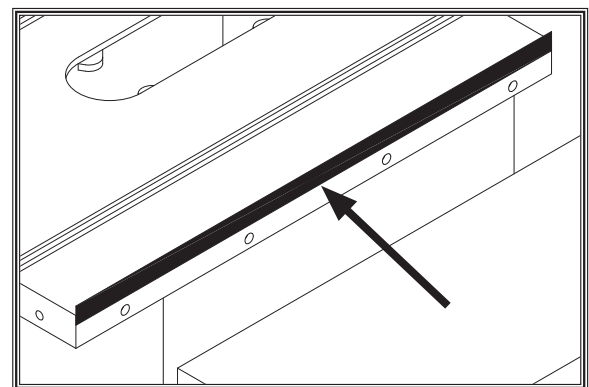

Figure 16. Masking tape location for shimming the wing down.
- If the outside end of the extension wing tilts up, place one or more strips of masking tape along the top edge of the main table to shim the end of the extension wing down (see **Figure 16**).